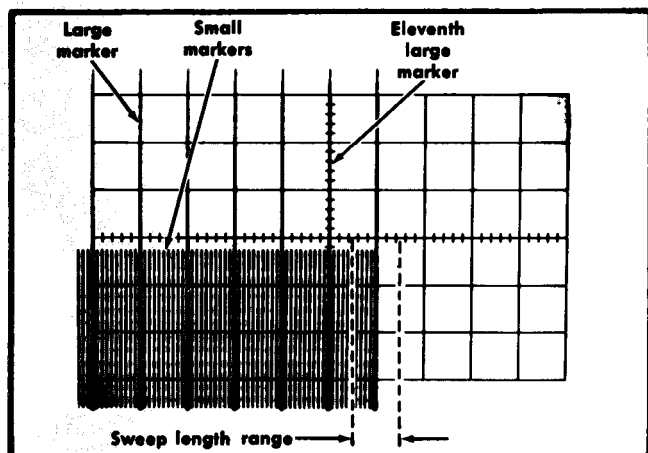

Fig. 5-22. Typical CRT display when checking A and B sweep length.
c. Move the eleventh marker to the center vertical line with the horizontal POSITION control (see Fig. 5-22). Large markers indicate divisions and small markers indicate 0.1 division.
d. CHECK-A sweep length must be between 10.5 and 11.5 divisions as shown by 0.5 to 1.5 divisions of display to the right of the center vertical line (see Fig. 5-22).
q. Move the eleventh large marker to the center vertical line with the horizontal POSITION control (see Fig. 5-22).
d. CHECK-B sweep length must be between 10.5 and 11.5 divisions as shown by 0.5 to 1.5 divisions of display to the right of the center vertical line (see Fig. 5-22).